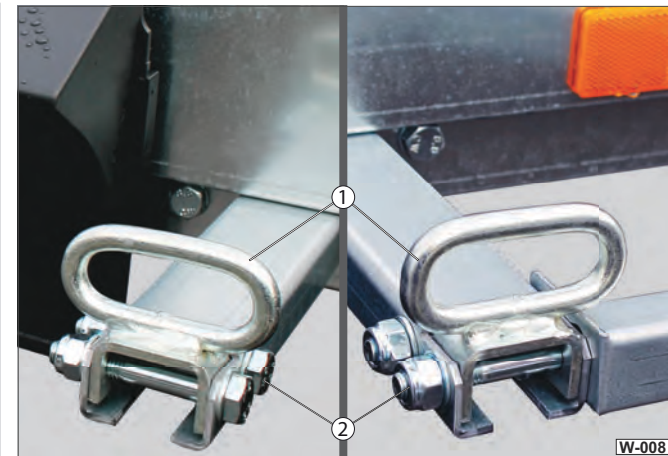

**Fig. 7** Checking stand rails
- 1 Screw connection stand rail (HM)
- ▶ Regularly check (at least every 6 months) the screw connections (Fig. 7 /1) in the cargo bed are securely fastened.
- ▶ Regularly check (at least every 6 months) the screw connections (Fig. 7 /2) in the chassis are securely fastened.